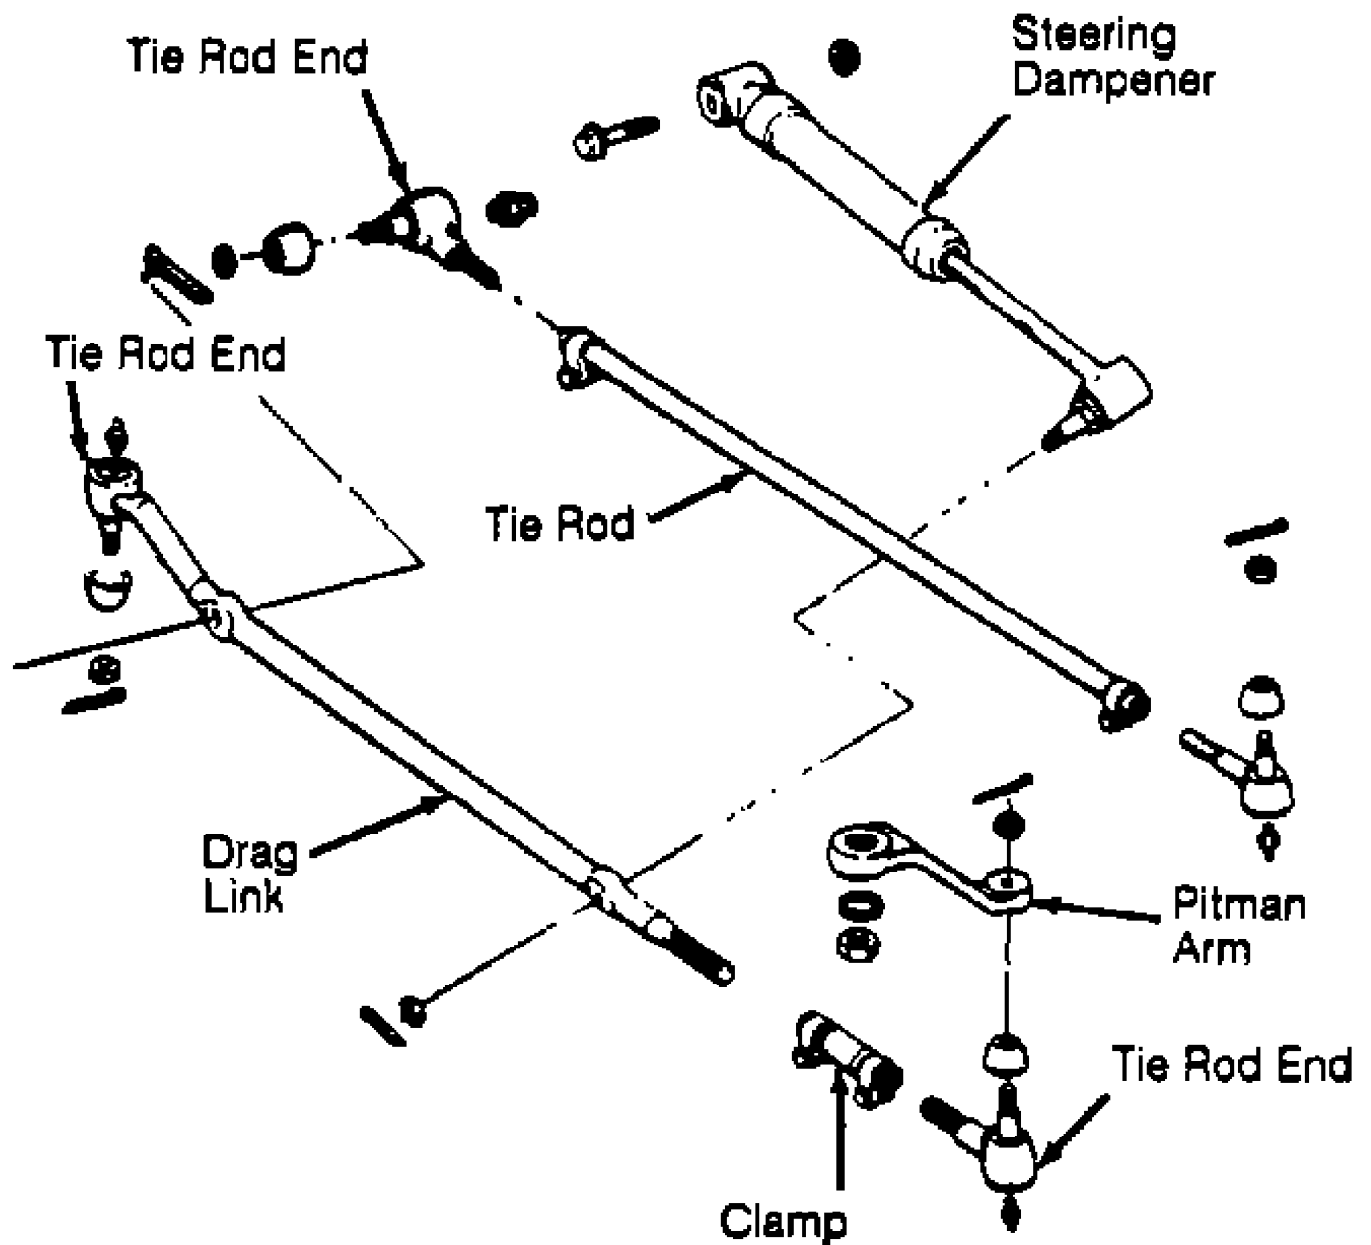

Fig. 3: Exploded View Of Steering Linkage (Except Wrangler)
2) Center steering wheel by counting the turns required to hit left and right steering stops. Center steering wheel mid-way between stops. Loosen drag link adjustment sleeve clamp bolts. See Fig. 3.